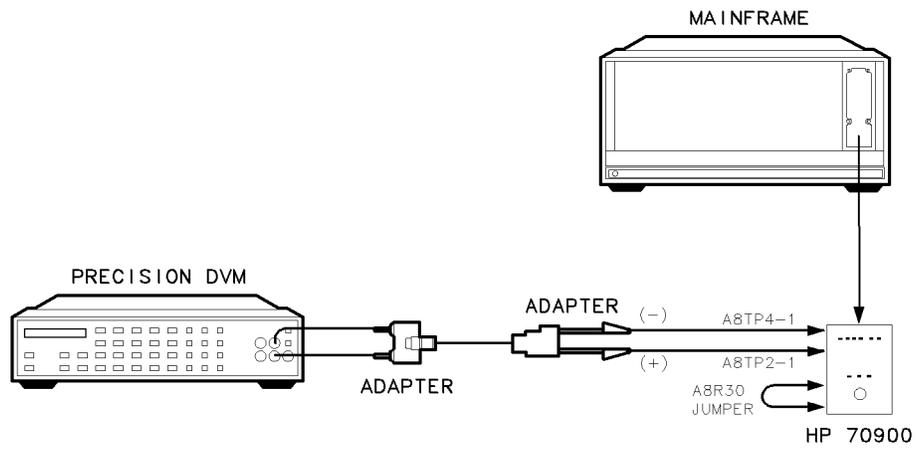
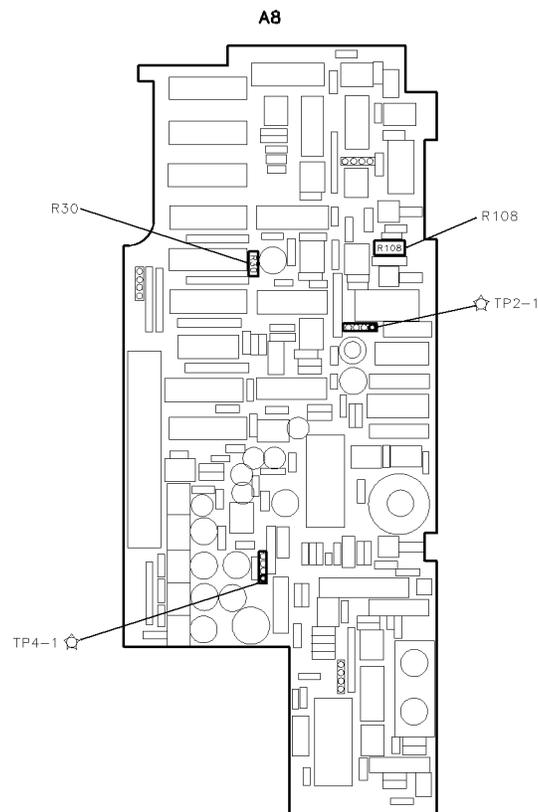

Figure 6-26. Equipment Setup for Adjustment 16. Sweep Offset
Figure 6-27. Locations for Adjustment 16. Sweep Offset
1. Remove the HP 70900B local oscillator source's cover and connect the equipment as illustrated in Figure 6-26. Connect the DVM ground lead to A8 frequency control (TP4-1) and the positive lead to A8 frequency control (TP2-1). Place a jumper wire across A8 frequency control (R30). See Figure 6-27.